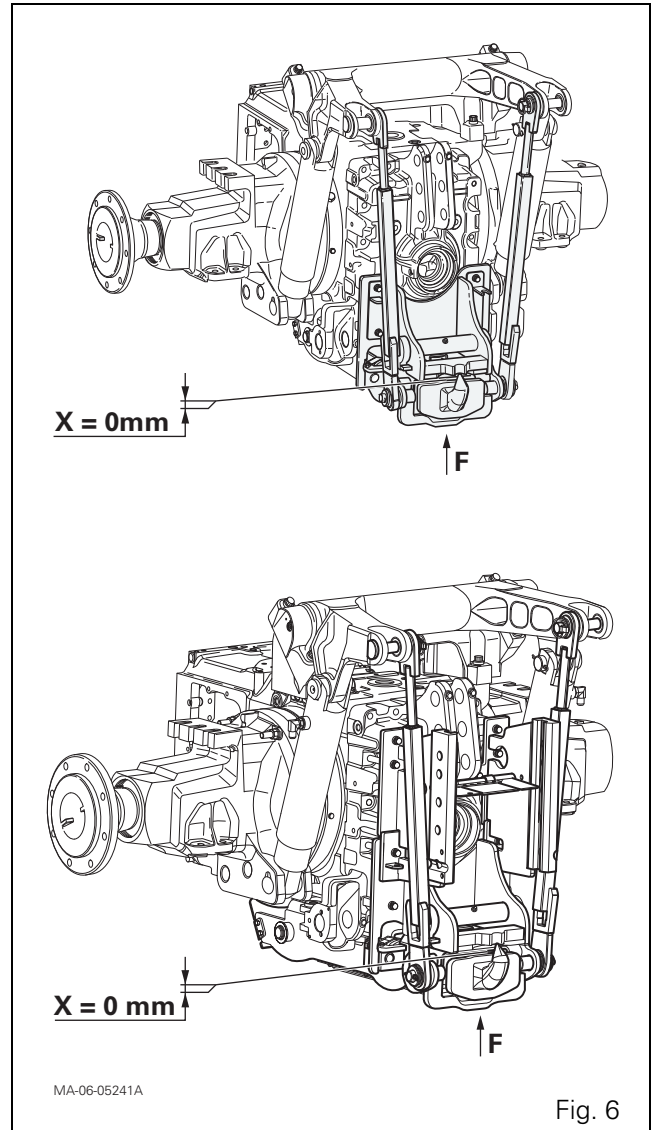

Fig. 6
- the tie rod clevises (2) (right and left-hand);
6. Using a trolley jack, moderately compress the auto-hitch moving plate at F (Fig. 6) until it is placed in contact with the fixed support (dimension $X = 0$ mm).
2. Release the wheel nuts (1) slightly (Fig. 6).
- the wheel nuts (1) (M22 x 1.5) (Fig. 6), tightening them to a torque of 640-680 Nm.